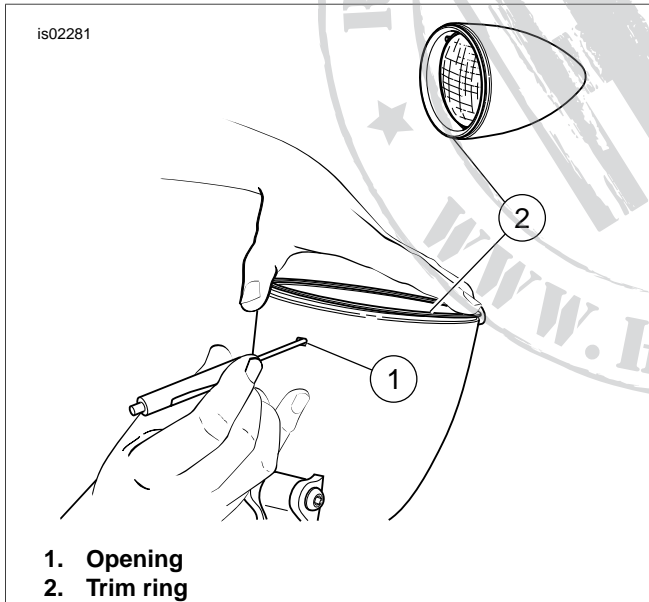

Figure 12. Pry Bottom of Trim Ring Away from Headlamp Shell
2. See Figure 12. Cover tip of small slotted screwdriver with duct tape, and insert tip of screwdriver into opening (1) at bottom of headlamp shell. Twist screwdriver to move bottom of trim ring (2) out approximately 0.12 in. (3 mm).